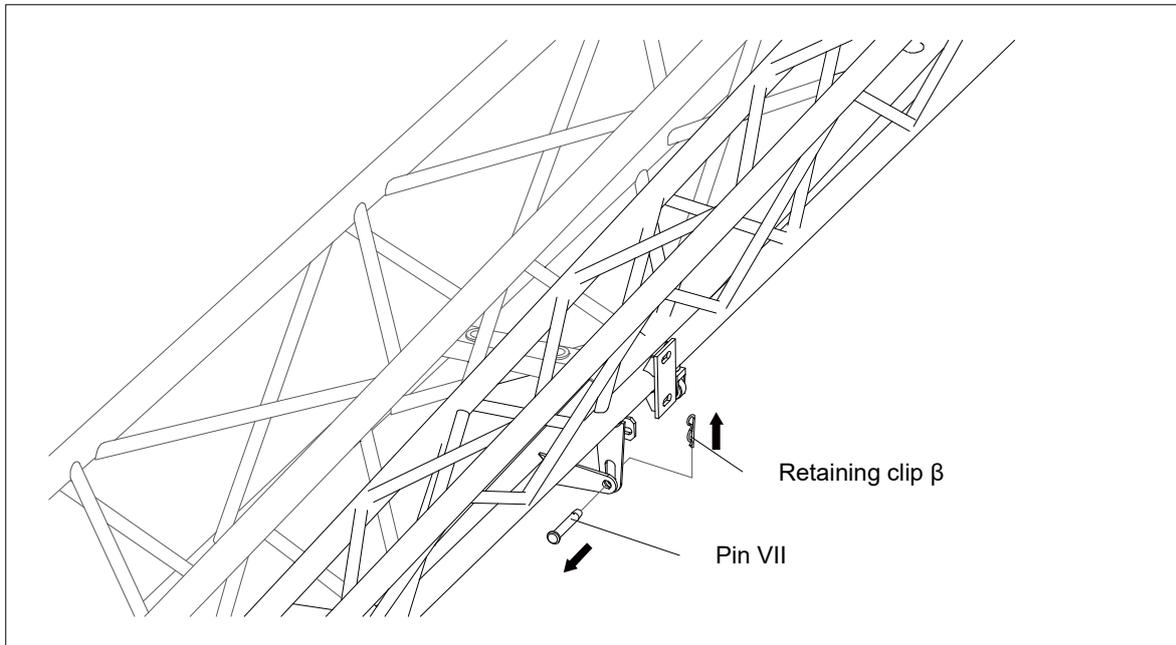

Figure 5-11 Pin VII removal
- j) If the jib section II is to be used, remove the pin VII and the retaining clip β connecting jib section I to section II. See Figure 5-11.